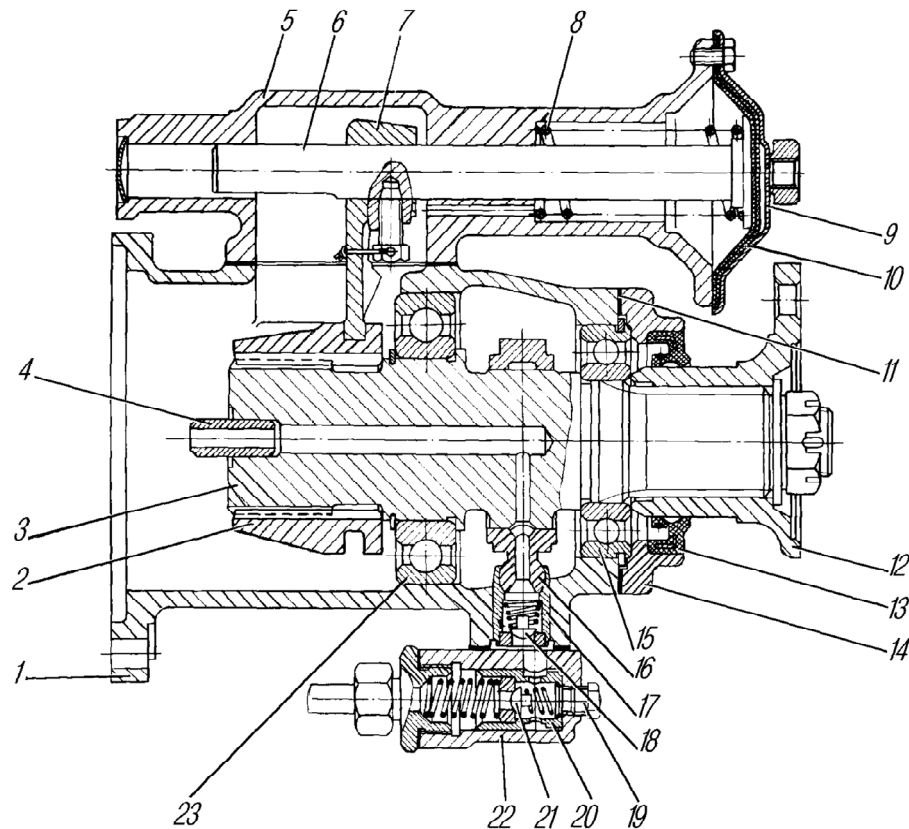

Fig. 110. Auxiliary Power Take - Off:
The power is taken off the primary shaft of the transfer box via sliding clutch 2 (Fig. 110) and is designed for driving winch and other auxiliary units. The design of the reinforced auxiliary PTO is similar.
- screw out plug 19 (see Fig. 110) in the pump body;